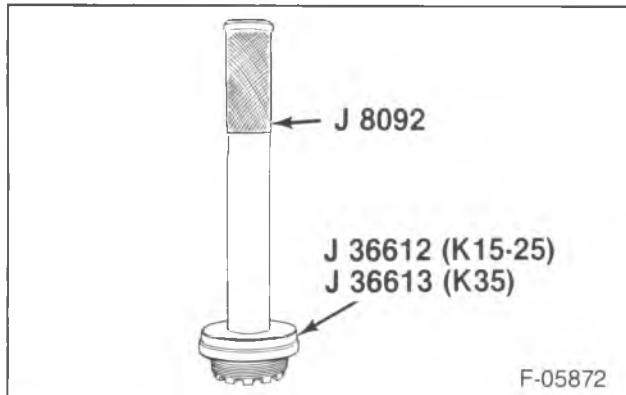
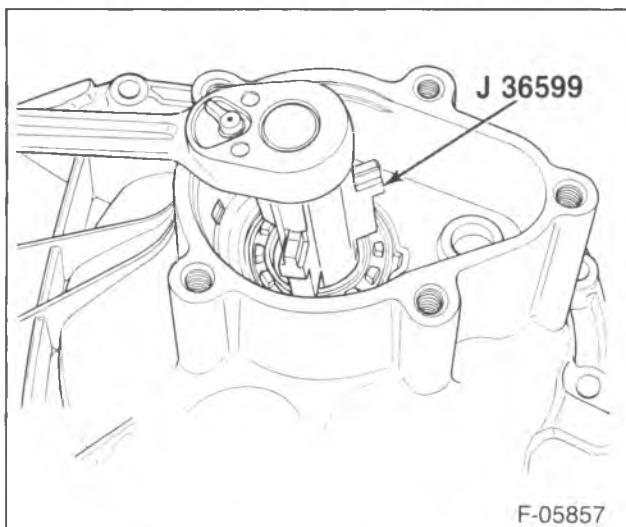
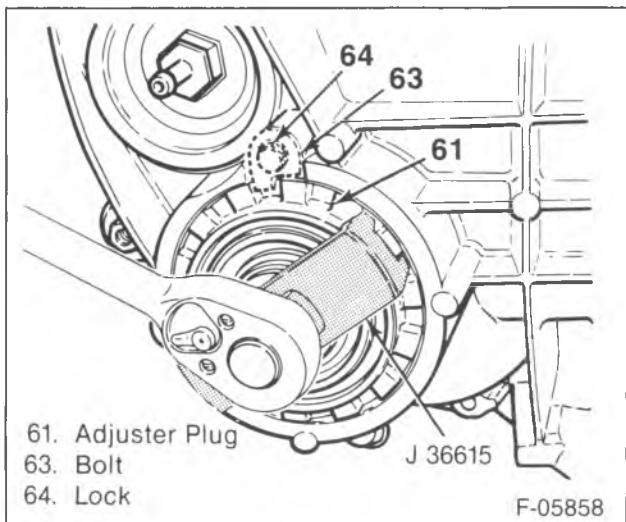

Figure 27—Installing the Adjuster Sleeve Bearing
Figure 28—Turning the Adjuster Sleeve
Figure 29—Turning the Adjuster Plug (K35 Models)
1. Bearings (30) to the sleeves (32) and/or adjuster plug (61) (K35 models). Use J 8092 and J 36612 (K15-25 models) or J 36613 (K35 models) (figure 27).
2. New O-ring (62) to the adjuster plug (61) (K35 models).
3. Sleeves (32) and/or adjuster plug (61) to the carrier case (29).
- K15-25 models: Use J 36599 (figure 28).
- K35 models: Use J 36599 for the right sleeve (figure 28). Use J 36615 for the adjuster plug (figure 29).
- Turn the left sleeve (32) (K15-25 models) or adjuster plug (61) (K35 models) in until backlash is felt between the ring and pinion.
- K35 models: Use J 36615 (figure 29).
- If the carrier halves do not make complete contact, back out the right sleeve (32). Use J 36599 (figure 28).
- 7. Bolts (28). Tighten to 47 N·m (35 ft. lbs.).
2. Tighten the right sleeve (32) to 140 N·m (100 ft. lbs.). Use J 36599 (figure 28).
3. Tighten the left sleeve (32) (K15-25 models) or adjuster plug (61) (K35 models) to 140 N·m (100 ft. lbs.).
- Use J 36599 (K15-25 models) (figure 28).
- Use J 36615 (K35 models) (figure 29).